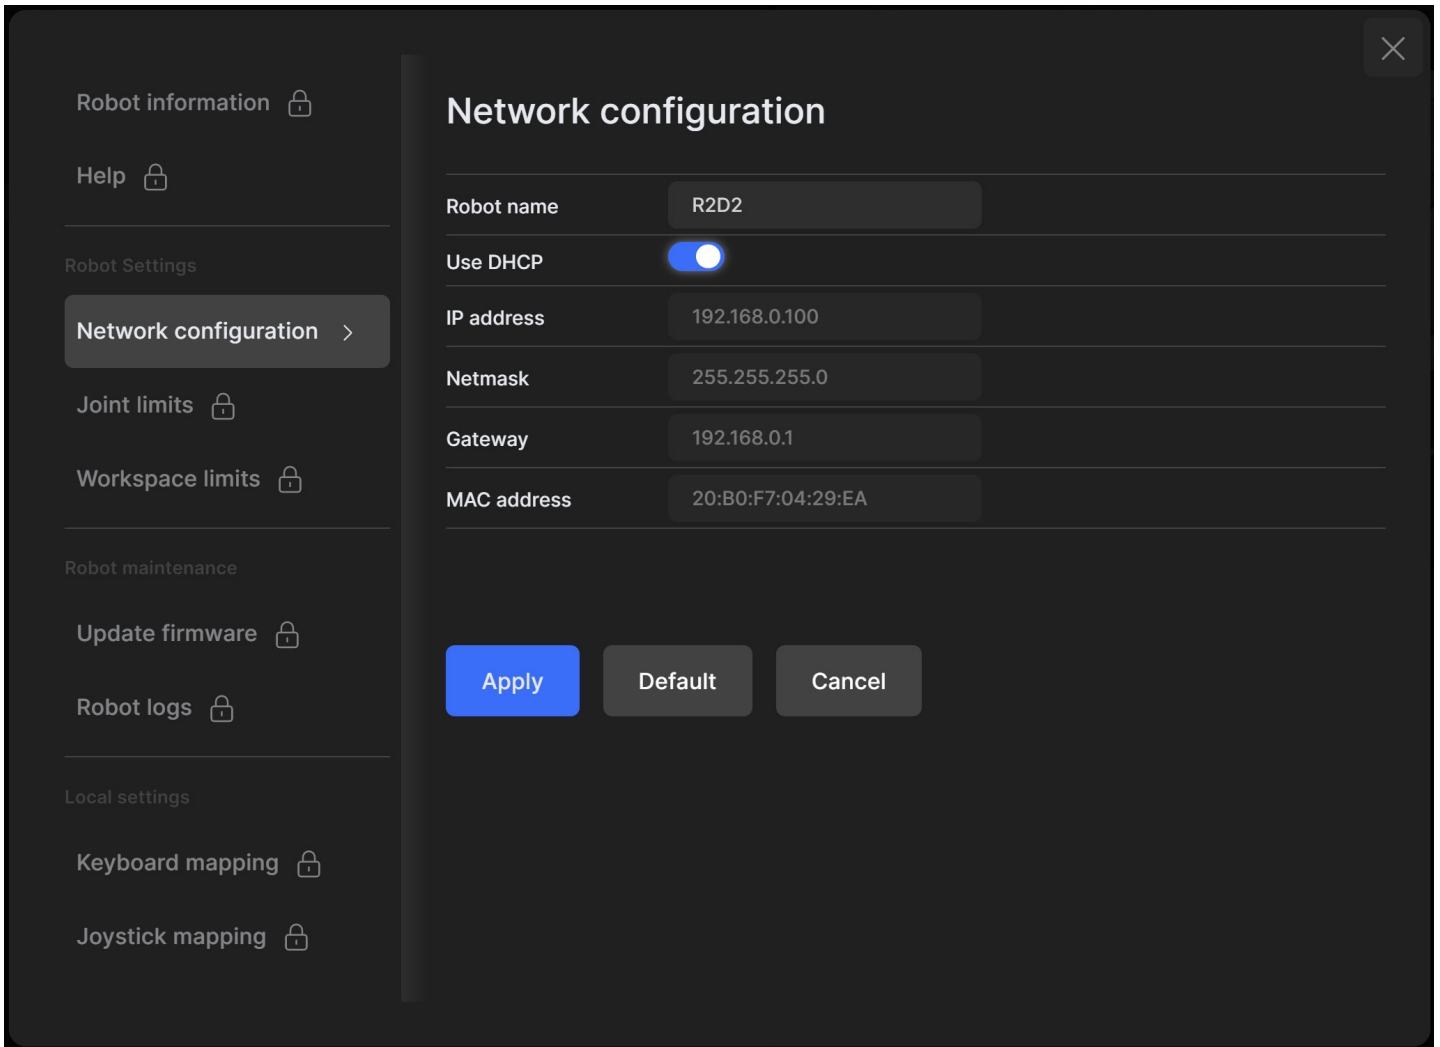

Figure 16: Changing the robot's network configuration
2. Depending on your configuration, activate the toggle DHCP to automatically receive an address from your router or leave untoggled to force a specific IP. You don't need to reboot the robot; the new configuration will be applied as soon as you click on the Apply button (Figure 16).